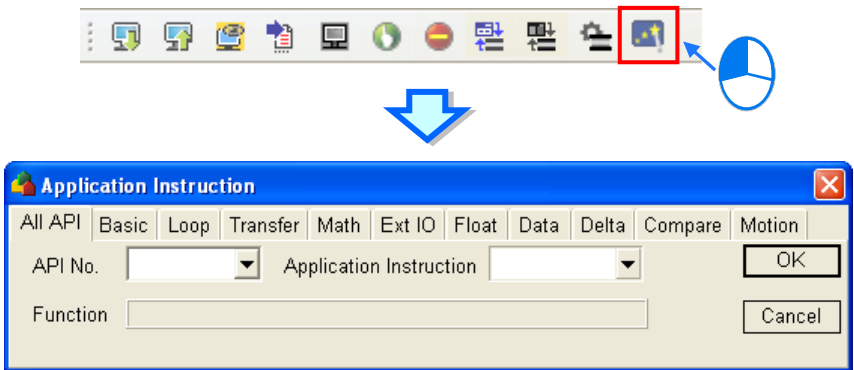

Figure 12-26 Instruction Wizard
- (1) After the users click  on the fast toolbar, the **Application Instruction** window will appear, as shown in figure 12-26.